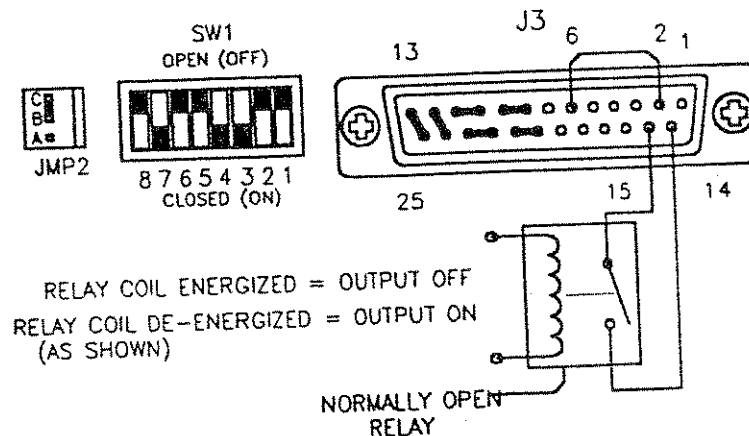

Figure 4.5-5 Using Shutdown with Contact Closure of a Normally OPEN Relay (Positive Logic)
1. Turn off the power supply and disconnect the AC power source. Allow five (5) minutes to elapse to dissipate stored energy before making connections or resetting switches. Refer to **Section 4.2** for instructions for resetting switches or making J3 connections.
2. Connect one side of the external relay to pin 15 (+15Vdc Auxiliary Output) on connector J3. Connect the other side of the relay to pin 14 (TTL Shutdown Input). Also connect pin 2 (Shutdown Return) to pin 6 (Auxiliary Supply Ground). See **Figures 4.5-5** through **4.5-8**.